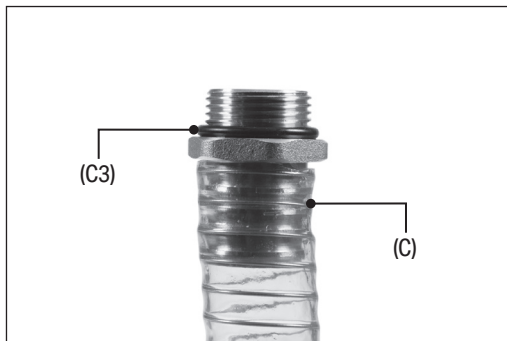

Fig. 1
- a. Ensure that each end of the inlet hose (C) is clean and fitted with an O-ring (C3) seal (Fig. 1).